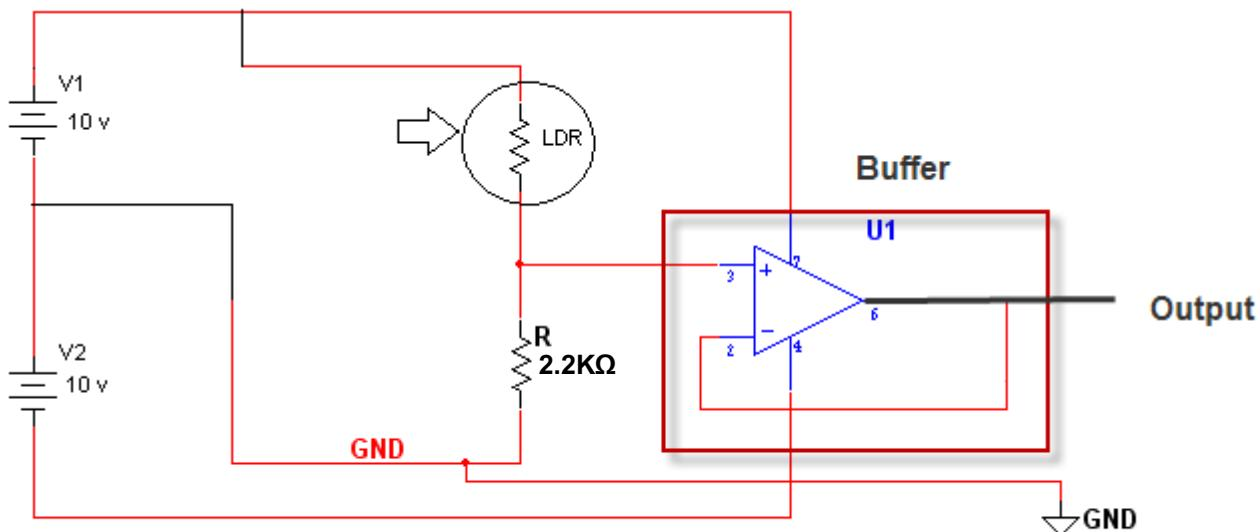

Figure 6
It is possible to configure this device to perform a multitude of signal processing functions. In the context of the problem of “loading” it can be configured as a Buffer i.e. a unity gain, high input impedance and low output impedance device. Figure 6 shows details of a circuit that contains your existing LDR in the potential divider and shows a buffer amplifier connected to the potential divided output.
**Construction:** first build the potential divider circuit (left part of figure 6) and then connect it to the buffer amplifier (right part of figure 6). Power the amplifier, and change the light to achieve at least 3 different Lux values (low, mid, high). Then use the multi-meter to make notes of the voltages at amplifier pins 3-GND and 6-GND to confirm the amplifier is working correctly. Report the results in a table and include a snapshot of your implementation in your report.
- Modify your existing circuit in figure 6 to create the amplifier